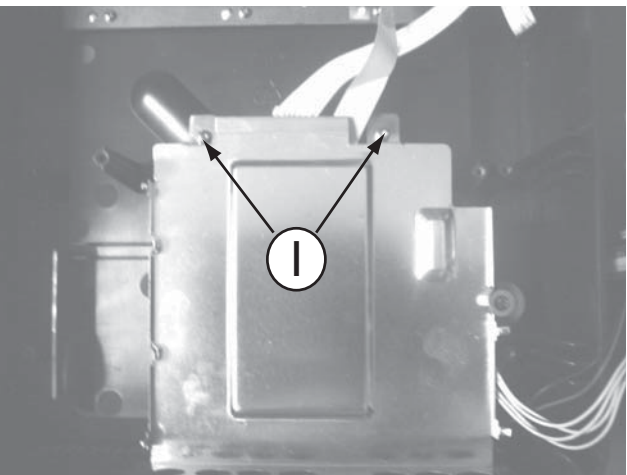

Figure 9
- 1) Loosen 2 screws "I" on the metal plate as shown in figure 9.